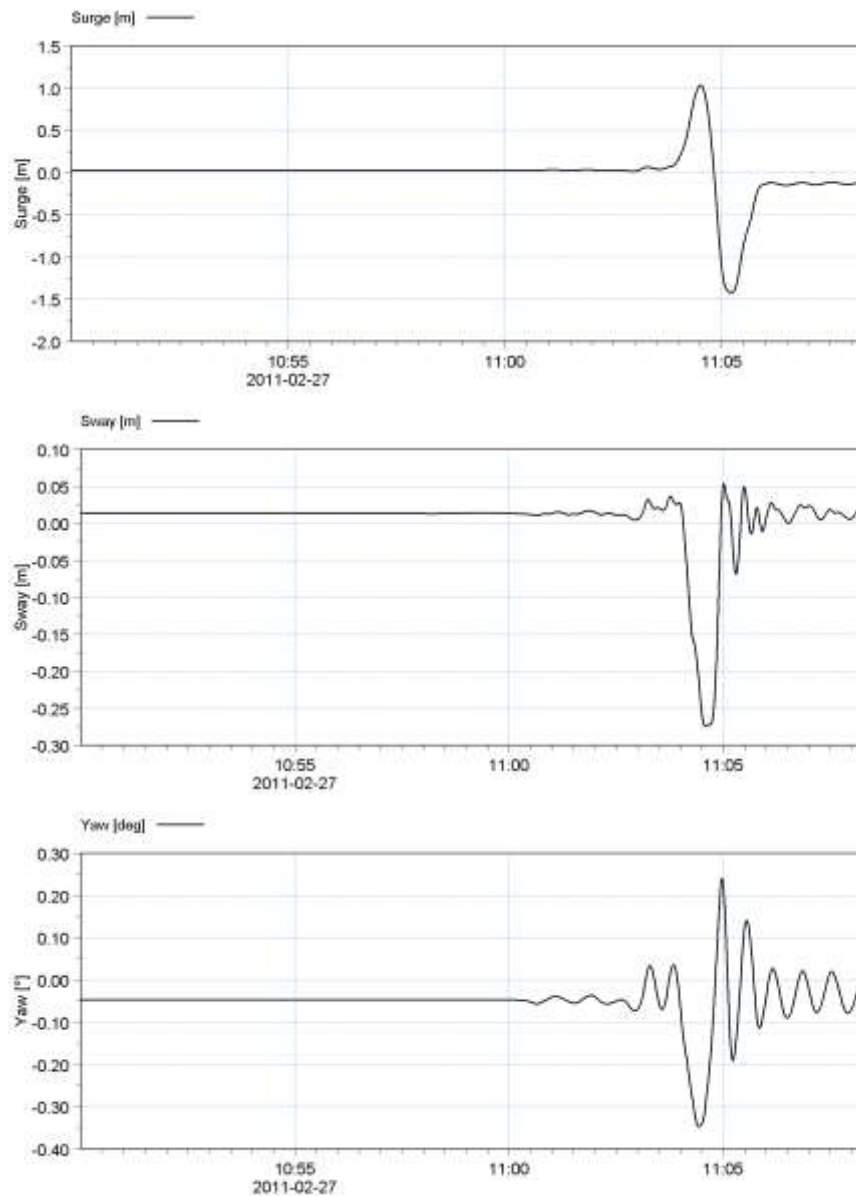

Figure 3-24 Passing vessel induced moored vessel motions - surge, sway and yaw
14. Open the newly created *Vessel1_motions.dfs0* file and plot the *Surge*, *Sway* and *Yaw motions*. You should see that the vessel is stable until around 11:05 when the passing vessel generated displacement waves arrive at the berth and induce a large surge motion of the moored vessel. Motions in the other degrees of freedom are relatively small. Your plotted surge, sway and yaw motions should appear as shown in Figure 3-24.